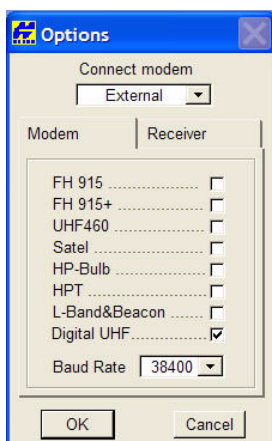

Figure 2-4. Tools-Options Screen
6. Confirm that the applicable radio modem options have a check mark, as shown in Figure 2-4. Once configured, click **OK**.
5. Go to **Tools ▶ Options** (Figure 2-4 on page 2-4).